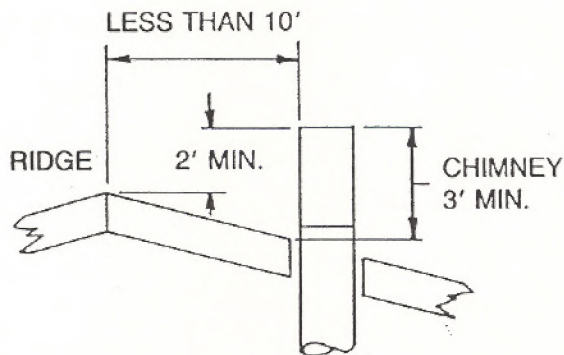

Figure 9
To prevent interference with natural chimney draft, Figures 9 and 10 define minimum space above the building roof line.
1. If the horizontal distance from the center of the chimney to the peak of the roof is 10 feet or less, the top of the chimney must be at least 2 feet above the peak of the roof but never less than 3 feet in height above the highest point where it passes through the roof. See Figure 9.